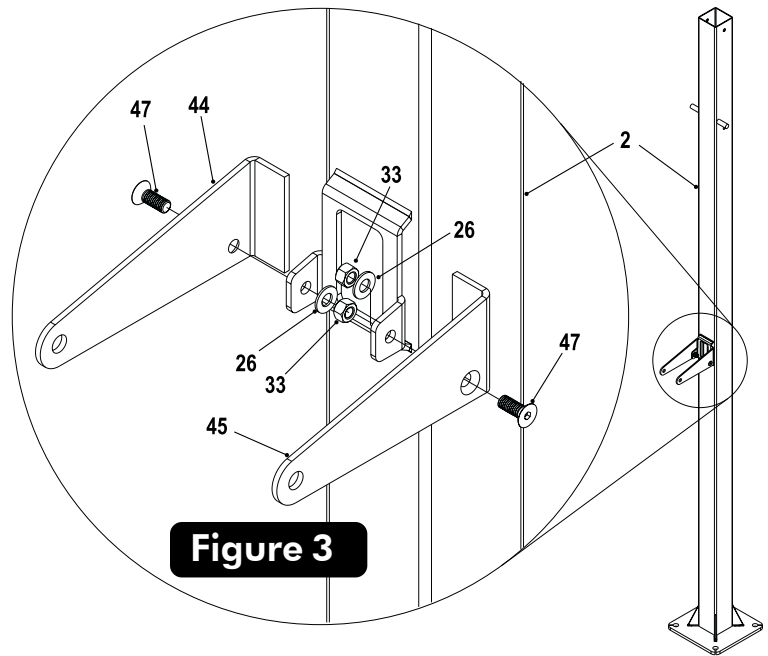

Figure 3
1. Slide Right Post Ear (#44) and Left Post Ear (#45) behind bracket on back of Post Assembly (#2). Using allen wrench (#46) provided, secure Right & Left Post Ears to bracket using one Flat Head Bolt (#47), one flatwasher (#26) and one locknut (#33). See Figure 3.
2. Slide Actuator Sleeve (#15) over Actuator (#16) and place Actuator Cap (#13) on top. Slide Pivot Tube (#14) in hole near the top of Actuator until equal amounts stick out on both sides of Actuator. See Figure 3.